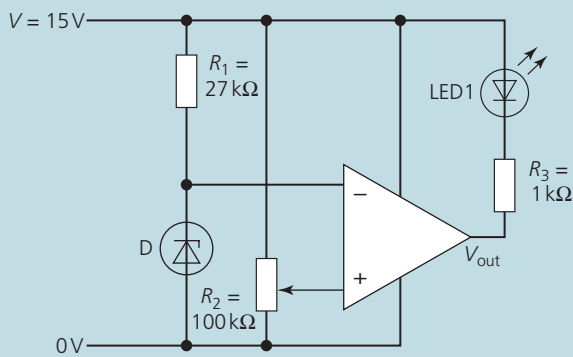

Figure 5
3. Figure 5 shows an op-amp connected as a voltage comparator. D is a Zener diode with  $V_Z = 6.2\text{V}$ . The positive power supply to the op-amp is connected to  $15\text{V}$  and the negative supply to zero volts.